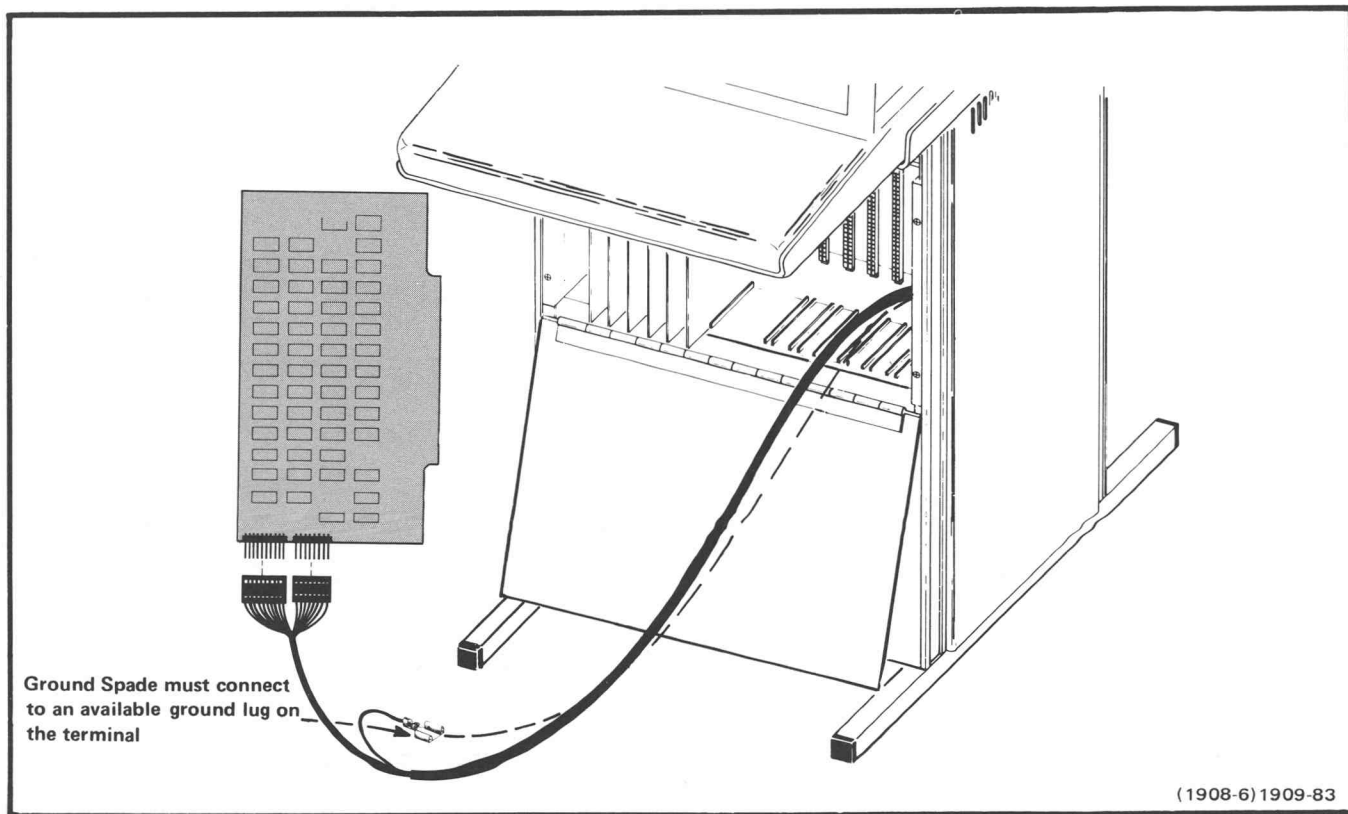

Fig. 2-1. Minibus Interface installation.
2. With the terminal power off, gain access to the minibus within the terminal pedestal; details are found in the terminal manual. Install the Minibus Interface card in one of the spare connectors in the terminal Mother Board, as shown in Fig. 2-1. (It may be necessary to install a Mother Board extender to provide room for the interface; refer to the terminal manual for details.)